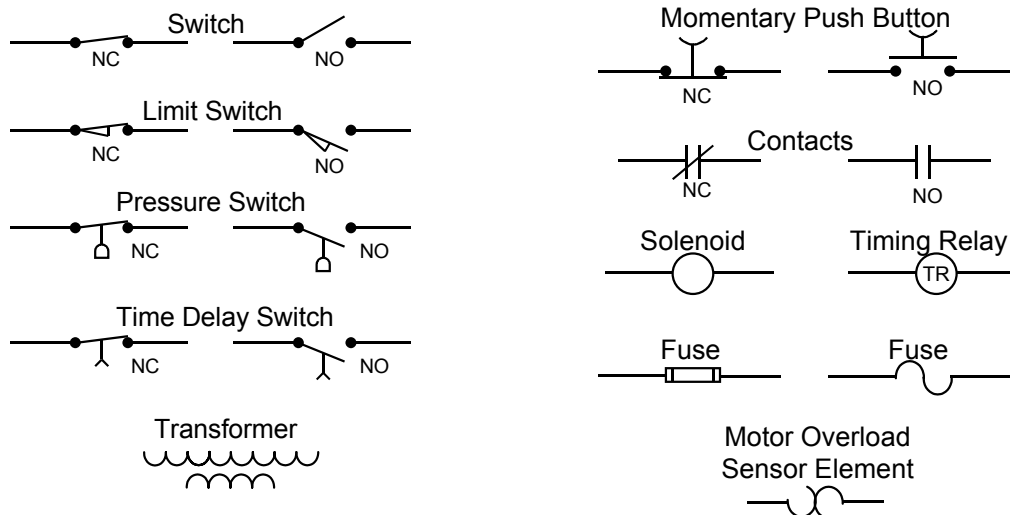

Figure 12 Common control devices found in a motor control ladder diagram.
Motor Control Circuits: It is important for the journey exam to understand the basics of motor control symbols and ladder diagrams. A ladder diagram is a logical way to show how all of the elements of a motor control system operate. The confusing part is that the different control contacts in a device may be spread out in different places on the control diagram. They will be identified by a number or a letter. Figure 12 shows several common types of control devices that may be found in a ladder diagram. There are basically two types of control devices. One is normally open (NO) and requires an action to close and complete the circuit. The other is normally closed (NC) and requires an action to open the circuit. Look for the normally open (NO) and the normally closed (NC) control devices in Figure 12.